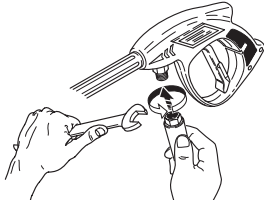

Figure 6
4. Connect gun to high pressure hose. Tighten securely. See figure 6.